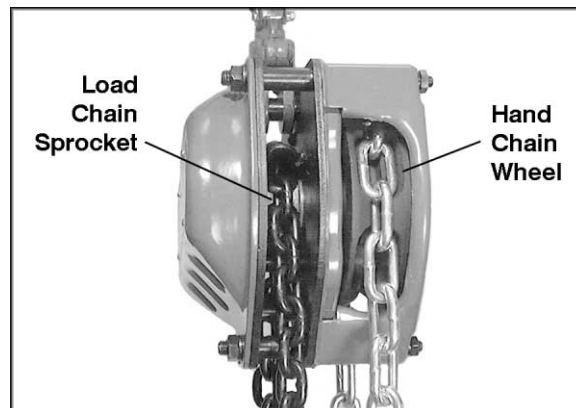

Figure 10
8. If installing entire new chain, insert the end of the hand chain into the groove at the top of the hand chain wheel (see Figure 10). Rotate the handwheel and pull the chain through.
1. Position the load chain sprocket (Figure 10) by rotating the hand chain wheel (Figure 10) so that the wide and narrow grooves show in the sprocket.